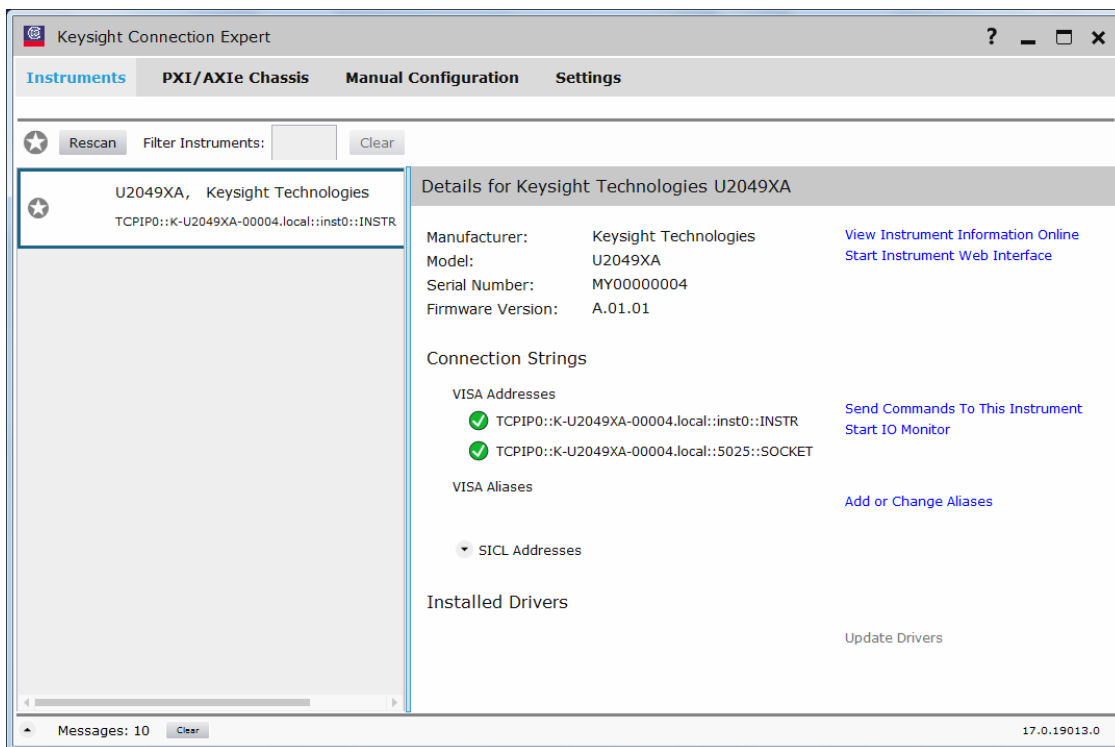

Figure 1-9 Auto-locate a LAN instrument in Keysight Connection Expert via Dynamic IP
- 5 Alternatively, you can auto-locate the U2049XA as shown in **Figure 1-9**. Click **Rescan** to start searching.